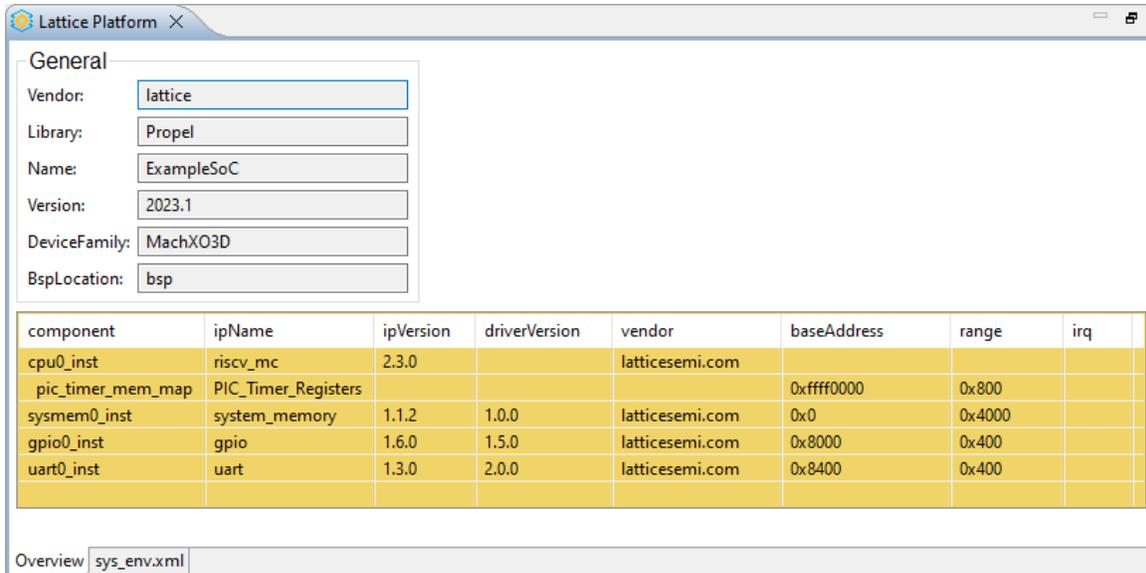

Figure 3.24. Lattice System Platform
- Lattice System Platform: An overview of the processor platform can be displayed (Figure 3.24).